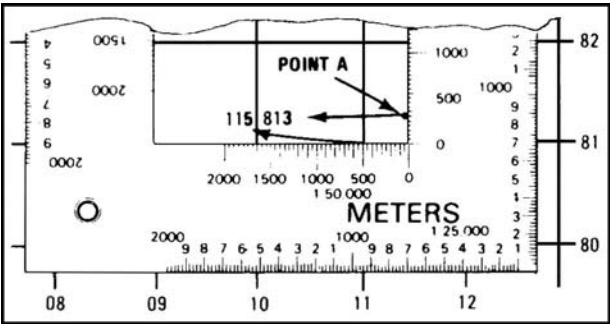

Figure 071-329-1002-7. Aligning the plotting scale
- e. To determine the correct two-letter 100,000-meter-square identifier, look at the grid reference box in the margin of the map (figure 071-329-1002-8).